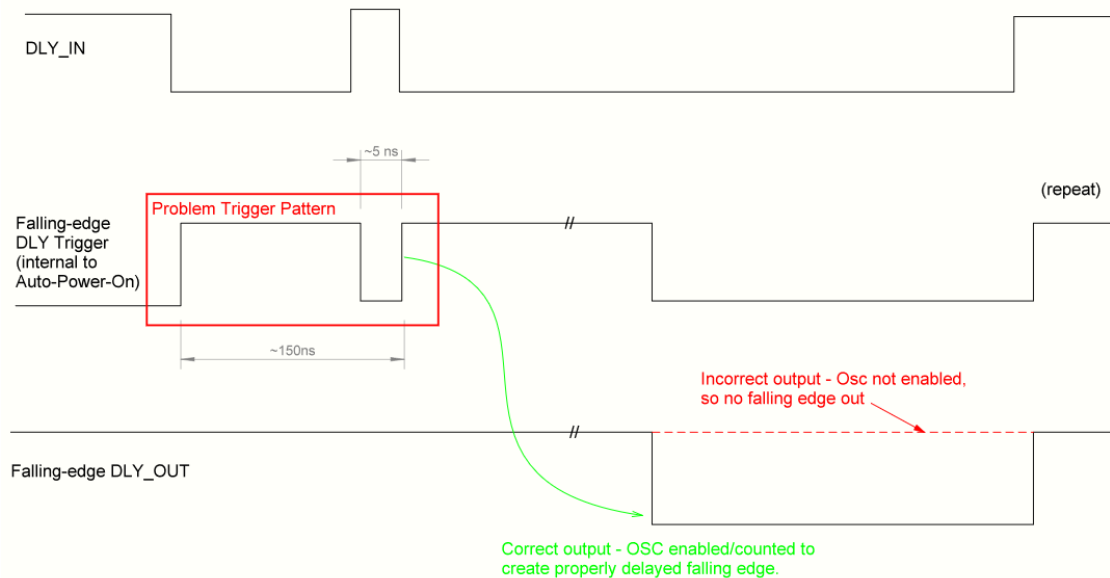

Figure 15: Problem Trigger Pattern
4. OR of OSC trigger signals from all DLYs clocked by same OSC together form a long+short glitch pattern with precise (ns) timings as shown in Figure 15. The trigger signal generation per DLY is detailed in section 3.7.3.
For this chip, the Auto Power On circuitry of the 25 kHz/2 MHz generators contains a circuit errata, which can potentially fail to power on the OSC for a specific pattern and timing of the OR of all related DLY trigger signals. The pattern is shown in Figure 15 (boxed in red) and consists of a relatively longer pulse (~145 ns) followed by a shorter (~5 ns) glitch of opposite polarity.